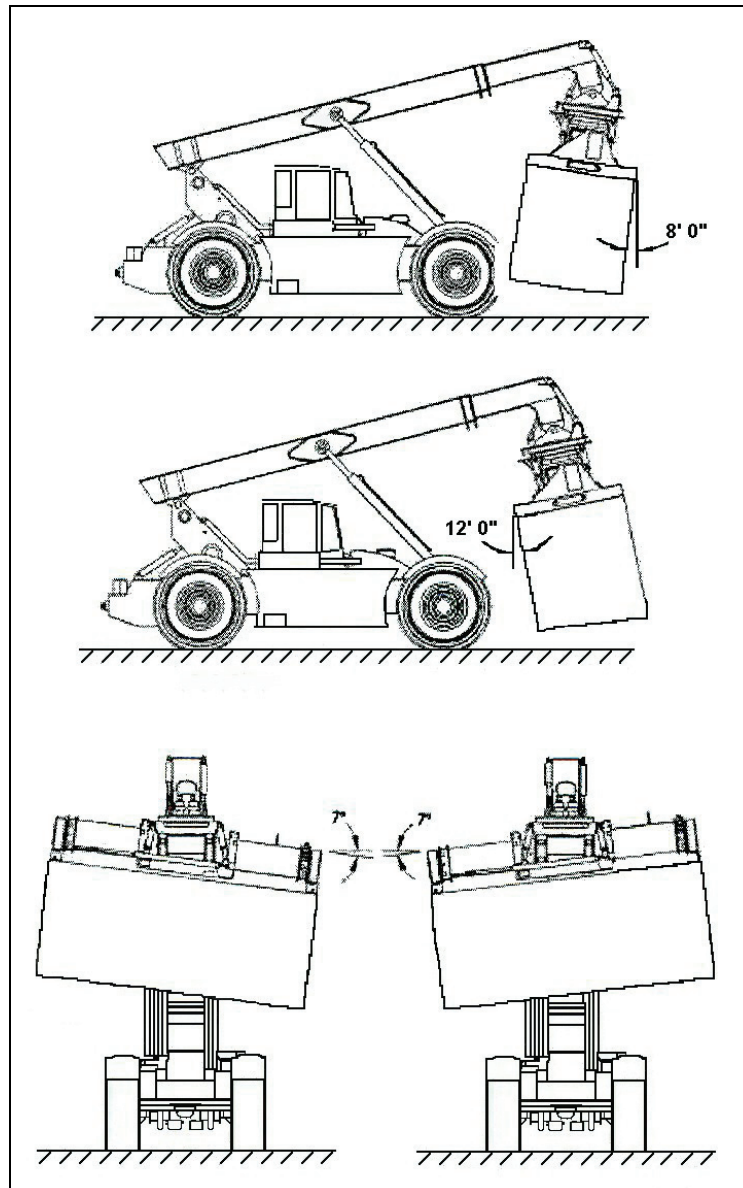

Figure 3-60. Engaging Oscillation and Tilt Locks
- g. Engage oscillation and tilt locks before driving with a load over rough terrain (see Figure 3-60).
- (1) Press to engage lock to secure the load position.
- (2) Press to release lock to allow the load to float.
- c. Place the transmission control lever in neutral (N).